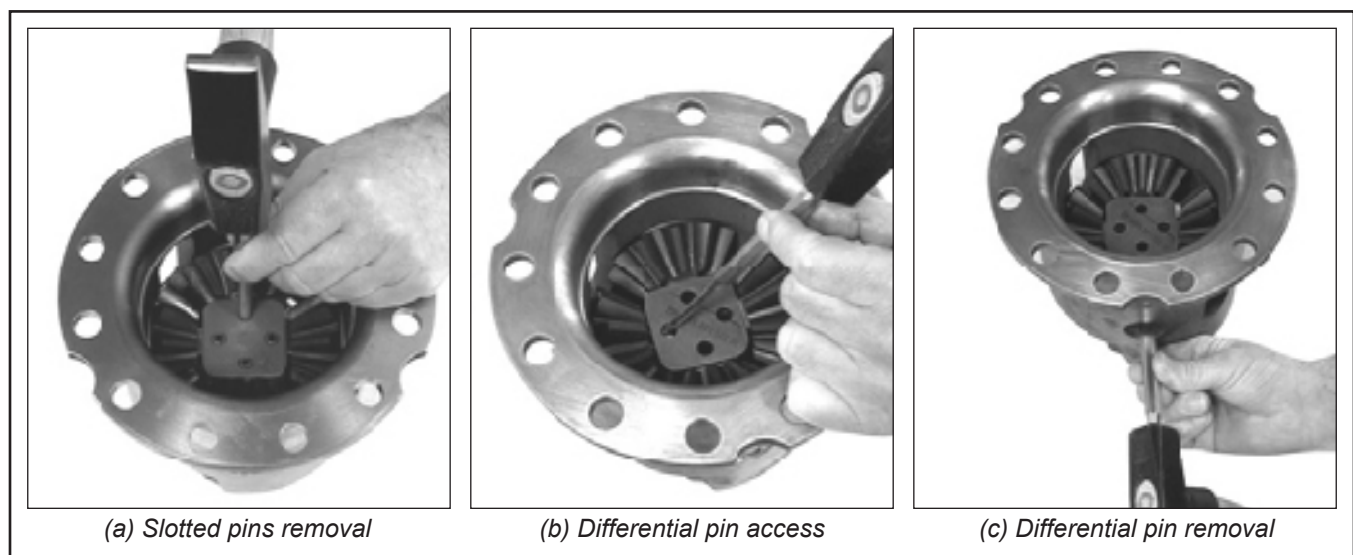

Figure 14 - Differential Carrier Disassembly
2.36. Force the slotted pins out of the cross joint. See Figure 14.